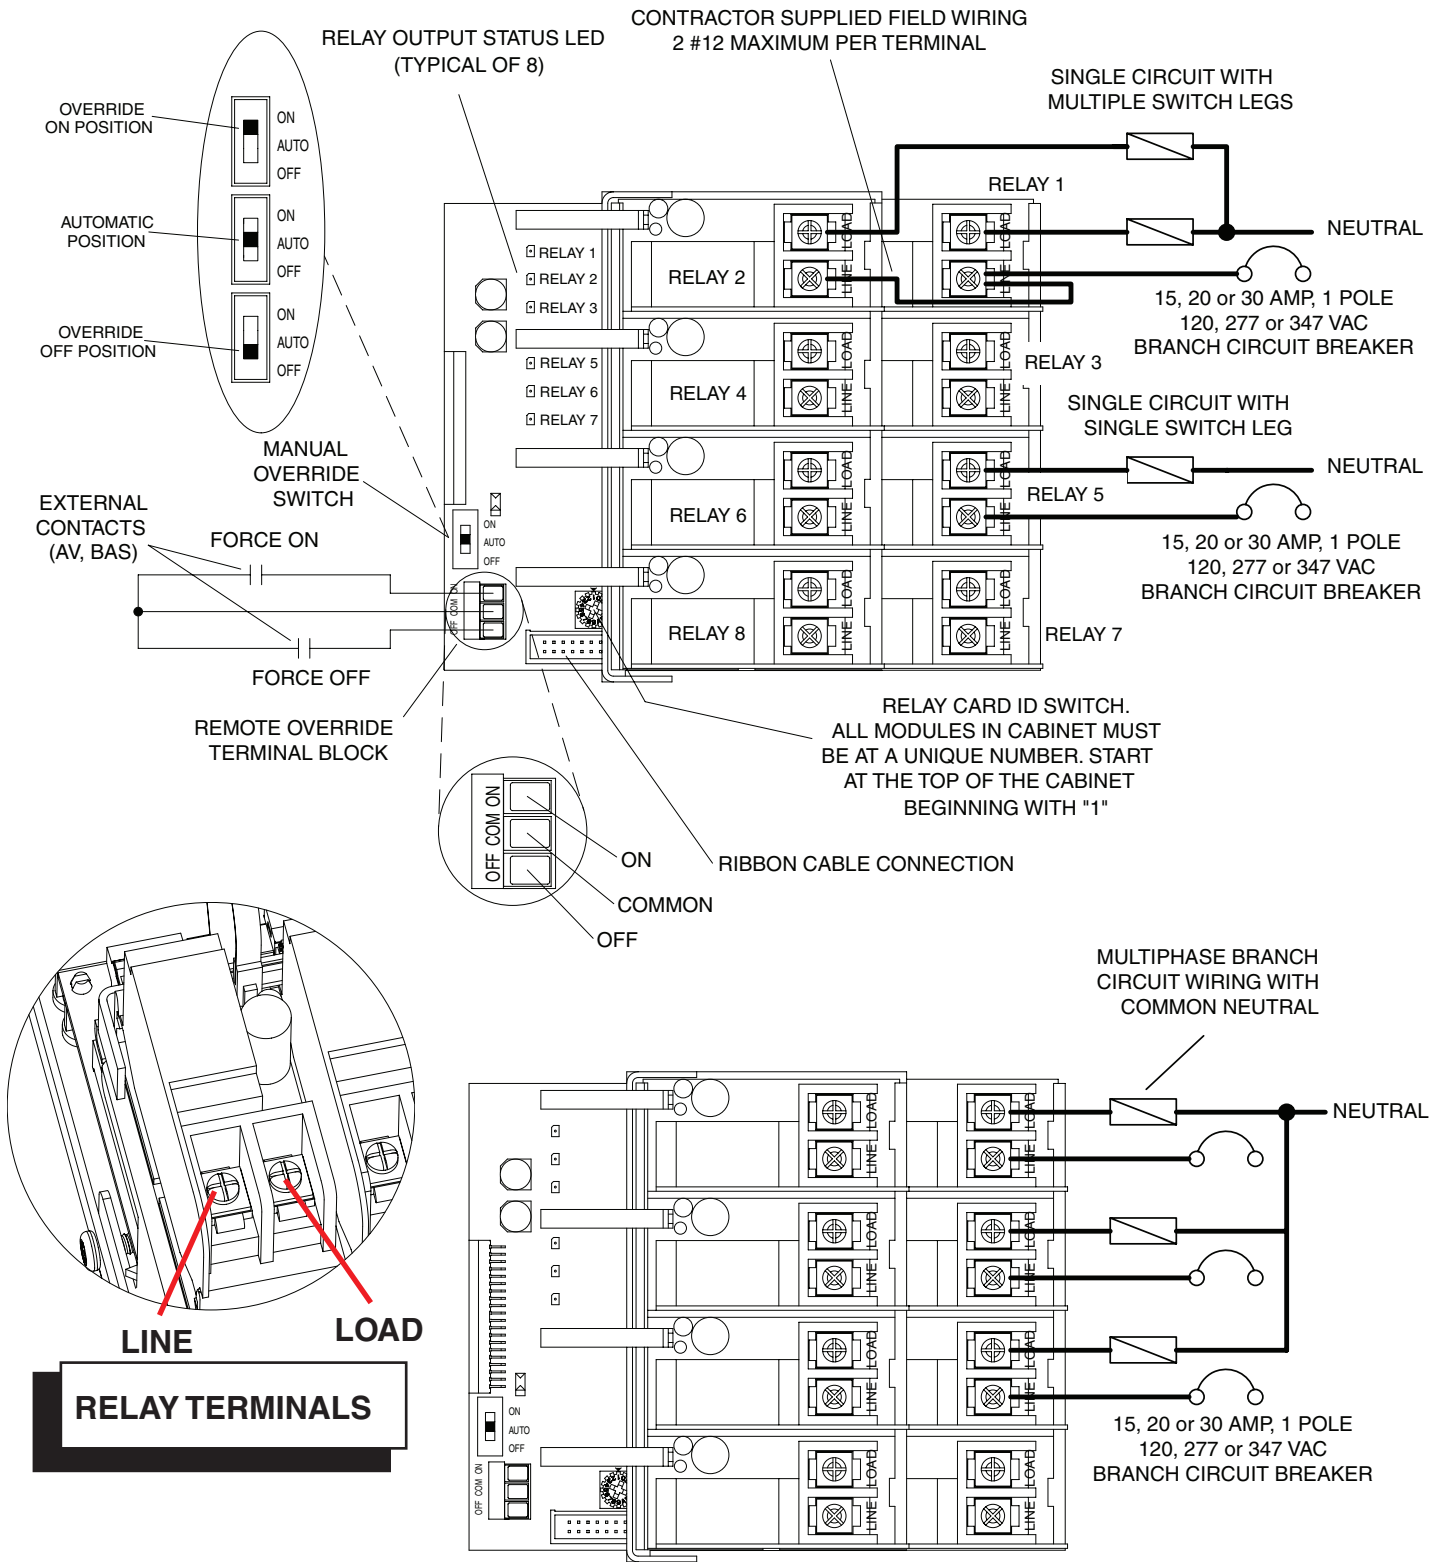

Figure 1 - SYPM 8L DSO (No Switch Inputs) Switching Only Wiring Detail
Connect each module input lug to an appropriately sized conductor. Use the module's feed through lug to connect additional modules to an input circuit on the same phase. See Figure 1 for load connection details and Figures 3 and 4 for typical feed wiring details.
2. Verify "MANUAL OVERRIDE SWITCH" is in the ON position. (See Figure 1)